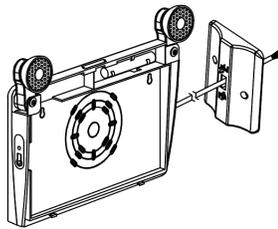

Fig. 4
- b) Pull wires through the canopy then connect the canopy to the junction box mounting plate with screws (Fig. 4).